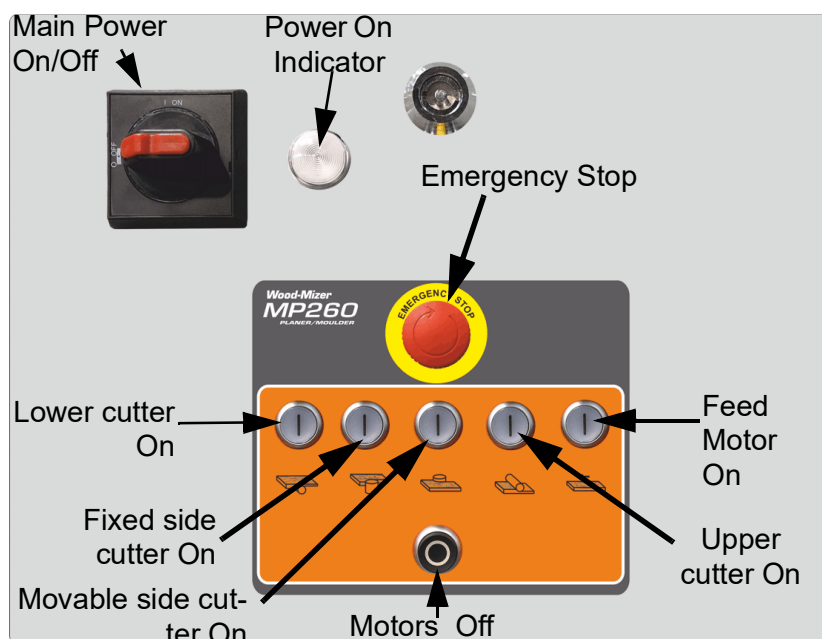

FIG. 4-1
1. Turn Main Power switch to On. See FIG. 4-1
1. Press the Motors Off Button. See FIG. 4-1